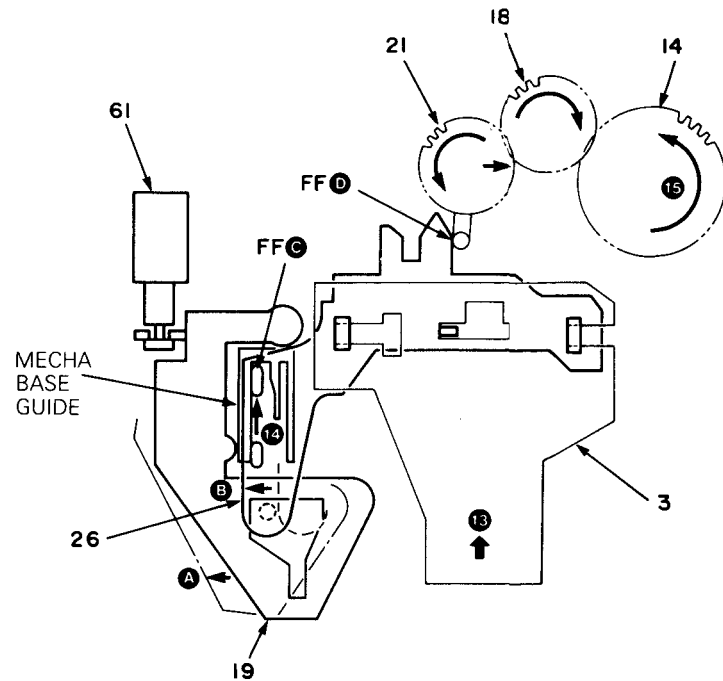

Fig. 5
- * When in the fast forward/rewind mode, the head chassis moves to the program selecting position as it shares the play cam gear. The difference between play and fast forward/rewind is obtained by moving the select arm right and left. (See * in Figure 5.)